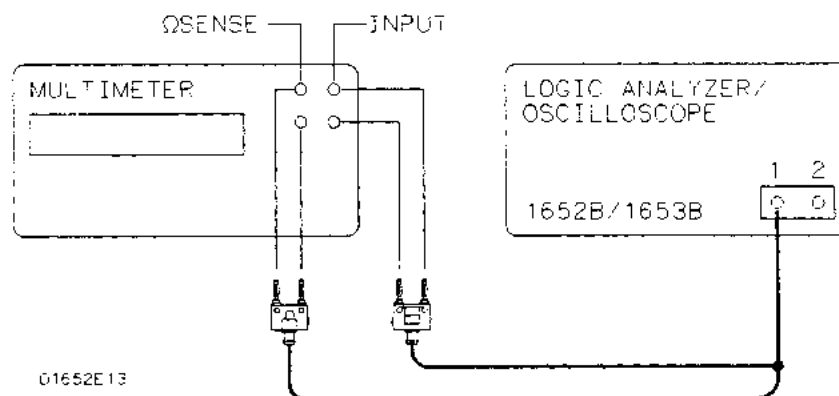

Figure 3-41. Setup for Input Resistance Test
2. Use the BNC-to-banana adapters to connect one end of each BNC cable to the four-wire resistance connections on the multimeter. Then connect the free ends of the cables to the BNC tee as in figure 3-41.